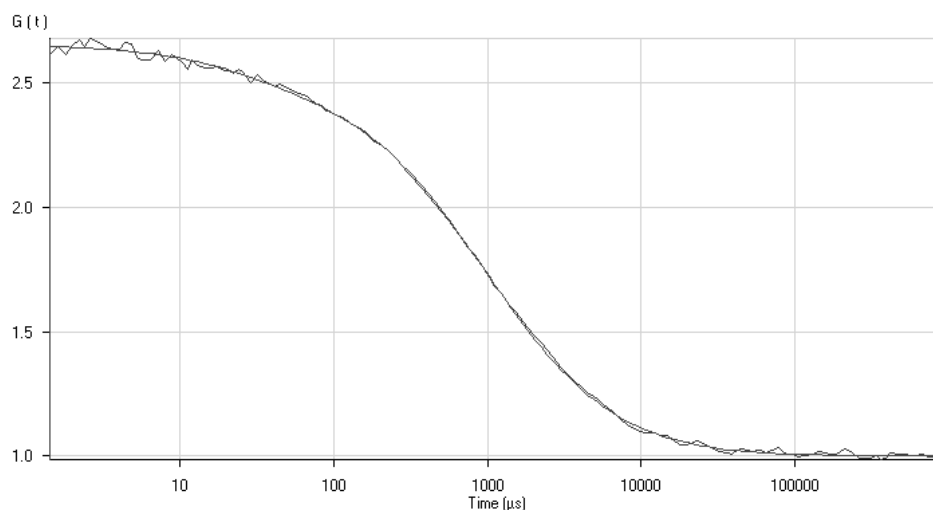

Fig. 5-380 The Correlation Curve window in restricted display
- Select **Use fit limits to restrict view range** to display only the part of the correlation curve that is used for fitting as determined by the **Start channel** and **End channel**, respectively (see Fig. 5-380). Selection of this option will automatically activate this form of display for the Correlation diagram as well.